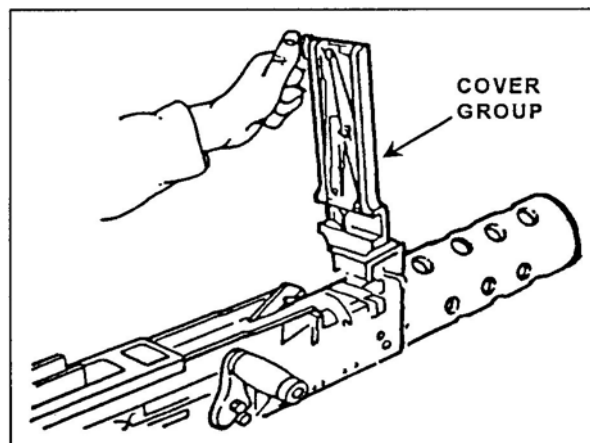

Figure 1. Raise Feed Cover
- a. Raise the cover group all the way up (Figure 1).